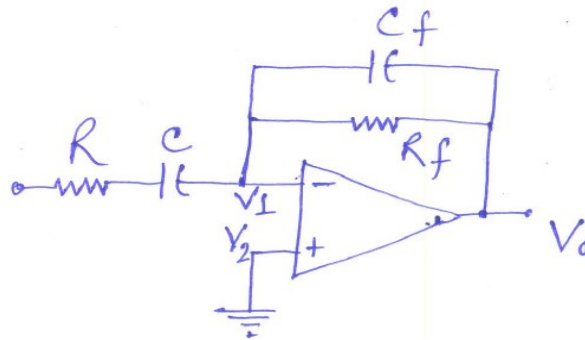

Fig.5.23 Practical differentiator circuit
- Both the high frequency noise and problem can be compensated developing practical differentiator circuit by adding, few components. as shown in Fig.5.23.